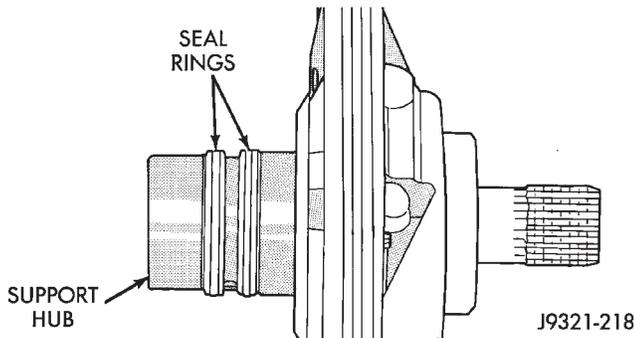

Fig. 173 Hub Seal Ring Position
- (6) Install new thrust washer on hub of reaction shaft support. Lubricate washer with transmission fluid or petroleum jelly.
- (7) If reaction shaft seal rings are being replaced, install new seal rings on support hub (Fig. 173). Lubricate seal rings with transmission fluid or petroleum jelly after installation. Squeeze each ring until ring ends are securely hooked together.